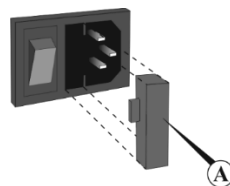

Figure 6. Fuse replacement
- Pull out the fuse holder by applying leverage in recess (fig. 6/A).